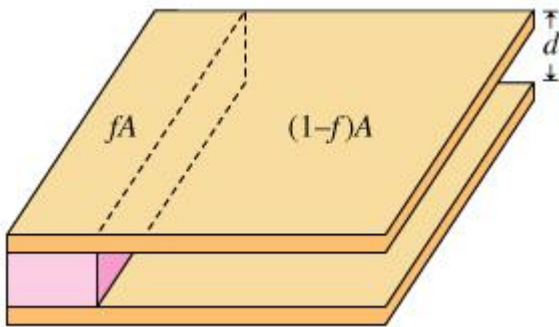

Figure 4
Part B proves that the configuration like Figure 4 divides the capacitor into two capacitors in parallel. For individual parts, the capacitance can be found by multiplying them with the division ratio f (formula 2 and 3). Summing the two leads us to formula 4. Using certain fractions, $C_{theo}(f)$ can be calculated and be compared with $C_{exp}(f)$. The error will show the correctness of the general formula, formula 4.
- a. Insert material as in figure 4 by $f =$ next value in table 3.x where x in {1, 2, 3} respectively (Take the first and last values from previous parts, they are for completeness).